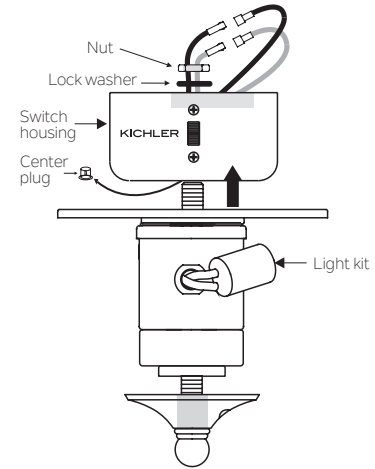

Fig. 1
1. Remove and discard the center plug from the switch housing. Attach the light kit to the switch housing by feeding the light kit wires (black and white) through the hole of switch housing and then screw it onto the switch housing by nut & lock washer. Be sure it is tight enough to prevent light kit from vibrating loose. (Fig. 1)